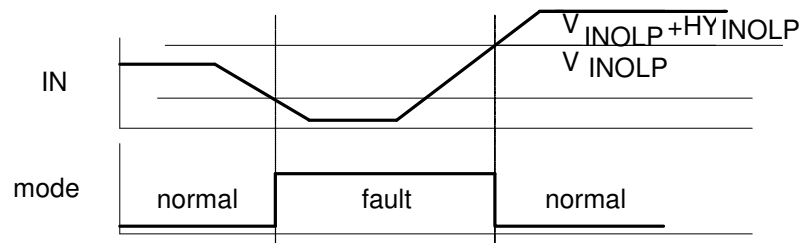

Figure 6 - Output Open Loop Protection
2. Open loop protection (OLP) is activated when the voltage at pin IN falls below V_{INOLP} , or there is an insufficient input voltage for normal operation. This function can be used for external disable of the IC (figure 6).